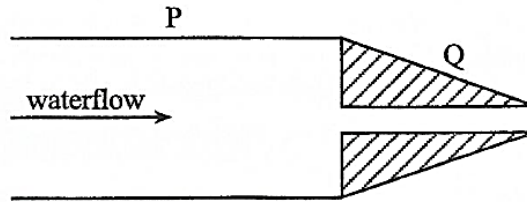

Fig. 1.1
2. Fig. 1.1 shows a water hose P and an end fitting Q of internal diameters 18.0 mm and 4.0 mm respectively.